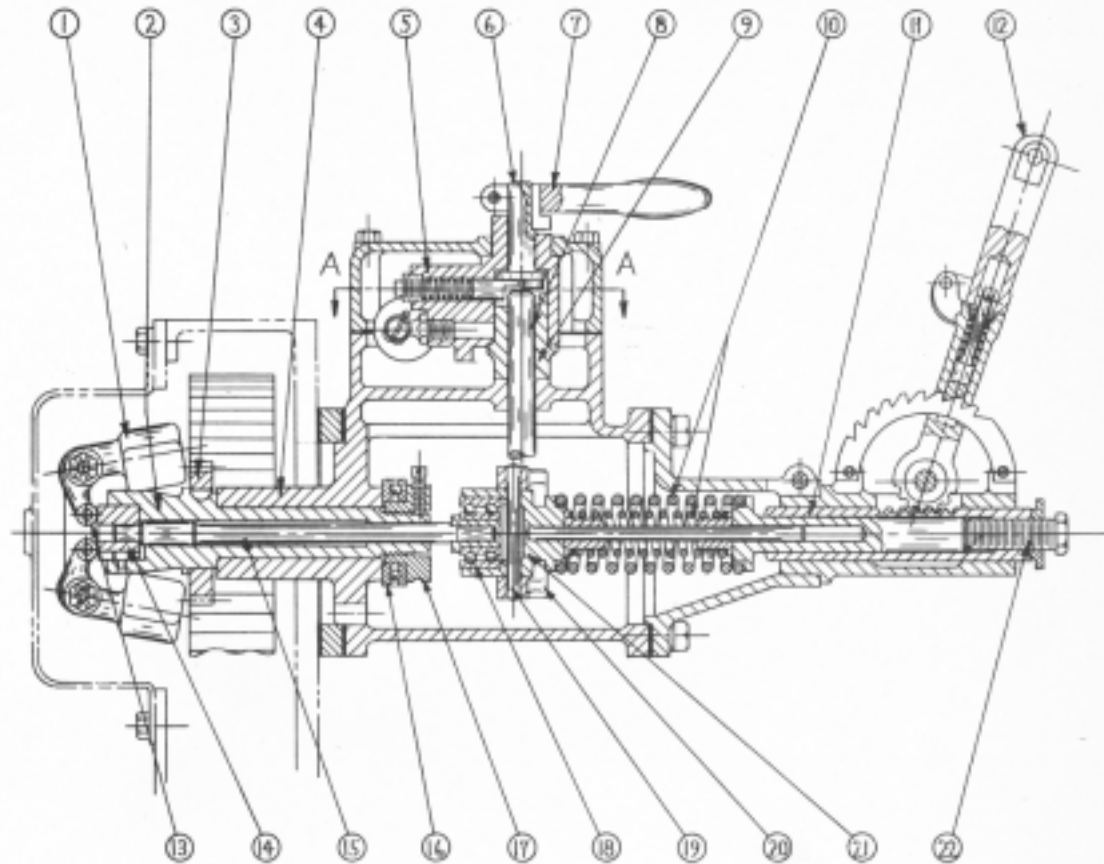
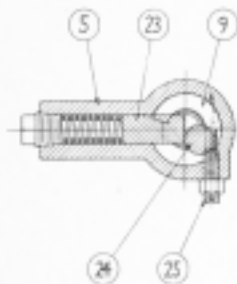

FIG. Q-1
FIG. Q-2
The flyball type governor is mounted on the timing gear casing on the operating side of the engine and is driven by the camshaft gear. It is illustrated in Fig. Q-1.
The engine is stopped by rotating the hand lever on top of the governor housing. Lever (7) (See Fig. Q-1) is connected through a release mechanism to floating lever (5) on top of vertical shaft (8). Lever (5) is linked directly to the fuel wedge shaft. The release mechanism is shown in detail in Fig. Q-2 which is an enlarged section taken through line A-A in Fig. Q-1. It serves to break the connection between Lever (5) and vertical shaft (8), releasing the wedge shaft from governor control. Referring to Fig. Q-2 it will be noted that set screw (25) and plunger (23), both of which are mounted on lever (5), form a rigid connection between lever (5) and drive collar (9). Collar (9) is clamped to vertical shaft (8) and appears in Fig. Q-2 as the annular segment, the opposite ends of which bear against the diagonally milled flat on the lower side of plunger (23) (shown dotted in Fig. Q-2) and the end of setscrew (25). This is the normal position of the mechanism when the engine is running, levers (5) and drive collar (9) operating as a single unit. When lever (7) is pulled to stop the engine, eccentric (24) on the lower end of shaft (6) engages the end of plunger (23) and forces it back against its spring, out of engagement with collar (9). Lever (5) is then free to rotate
clockwise without interference with collar (9). As stopping lever (7) is moved further the projecting end of the key in shaft (6) engages a boss extending from the top of lever (5) (not shown in Fig. Q-1) and thereafter lever (5) follows the motion of hand lever (7), pulling out the fuel wedges and stopping the engine.
The rod connecting the governor mechanism to the fuel wedge shaft is adjustable in the ball socket joints at either end. This adjustment should be set so that when the governor stopping lever (6) (See Fig. Q-1) is in the mid position of its stroke between full load and idling the connecting lever on the wedge shaft is vertical.